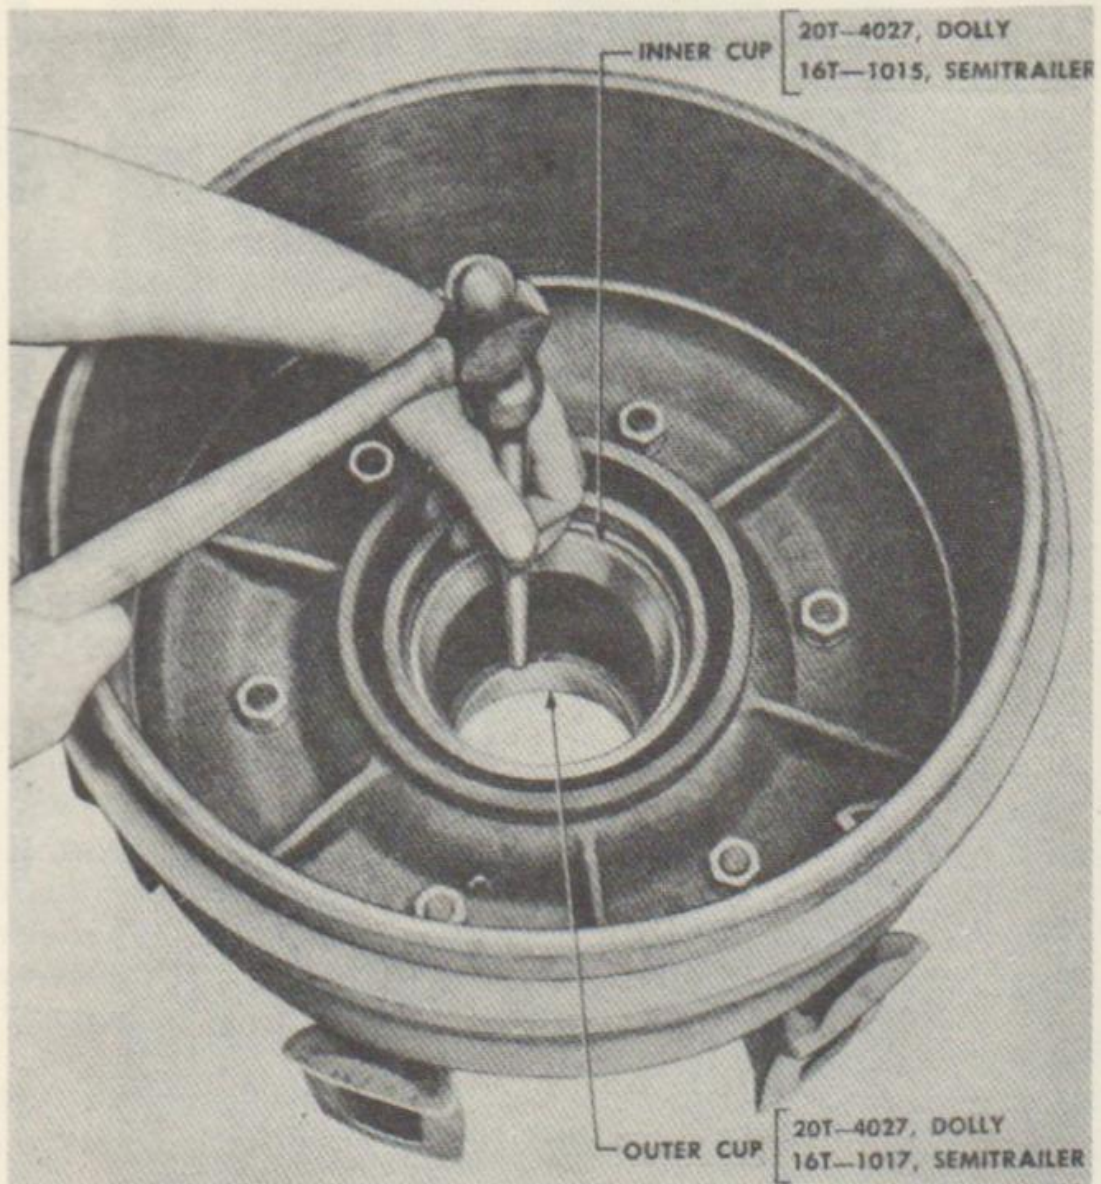

FIGURE 58. REMOVING CUPS
a. Removal (fig. 58). Wheel bearing cups must be removed with a cup puller and replaced with a cup driver. However the following instructions are for the first and second echelon maintenance, where cup puller is not available. Remove tire and rim assembly from wheel (para. 78 a.). Remove drum and wheel assembly (para. 73 a. or 76 a.). Place wheel on its side. Place a soft steel bar on inside shoulder of cup. Using a heavy hammer, hit first one side of the cup and then the other. Alternating in this manner makes the cup come out straight with the cup bore, and danger of wedging the cup in the bore is minimized. Turn wheel over and remove opposite cup in the same manner.